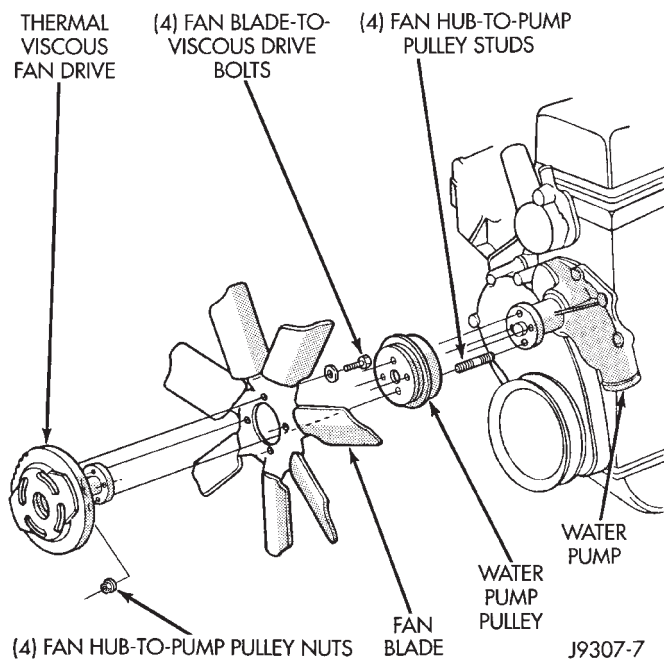

Fig. 18 Fan Mounting Nuts
- (1) Disconnect negative battery cable at battery.
- (2) Drain the cooling system.
- (3) Loosen (but do not remove at this time) the four fan hub-to-water pump pulley mounting nuts (Fig. 18).